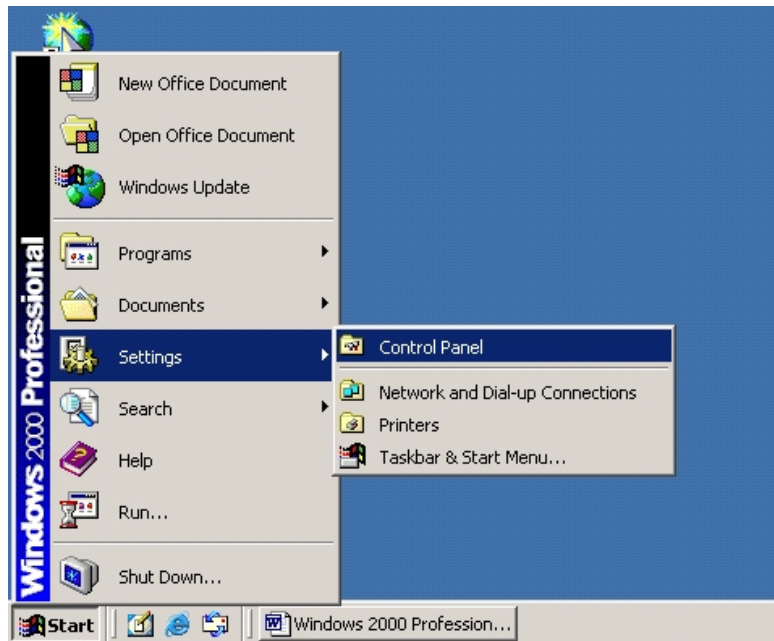

Figure B-2.1
1. From the desk top Select **Start, Settings, Control Panel** (see figure B-2.1).